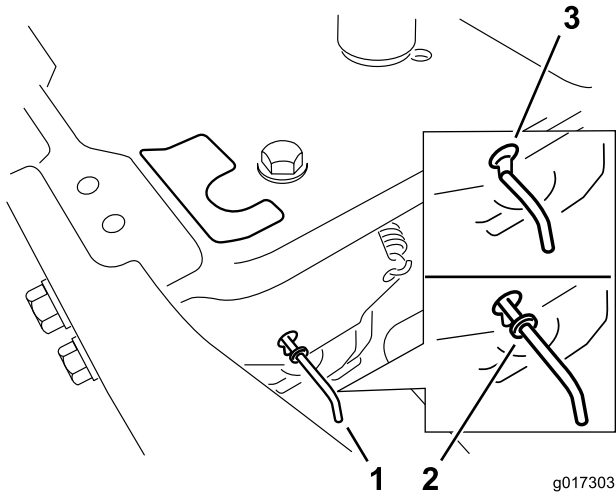

Figure 21
- Move the bypass levers forward through the key hole and down to lock them in place (Figure 21).
Move the bypass levers rearward through the key hole and down to lock them in place as shown in Figure 21.